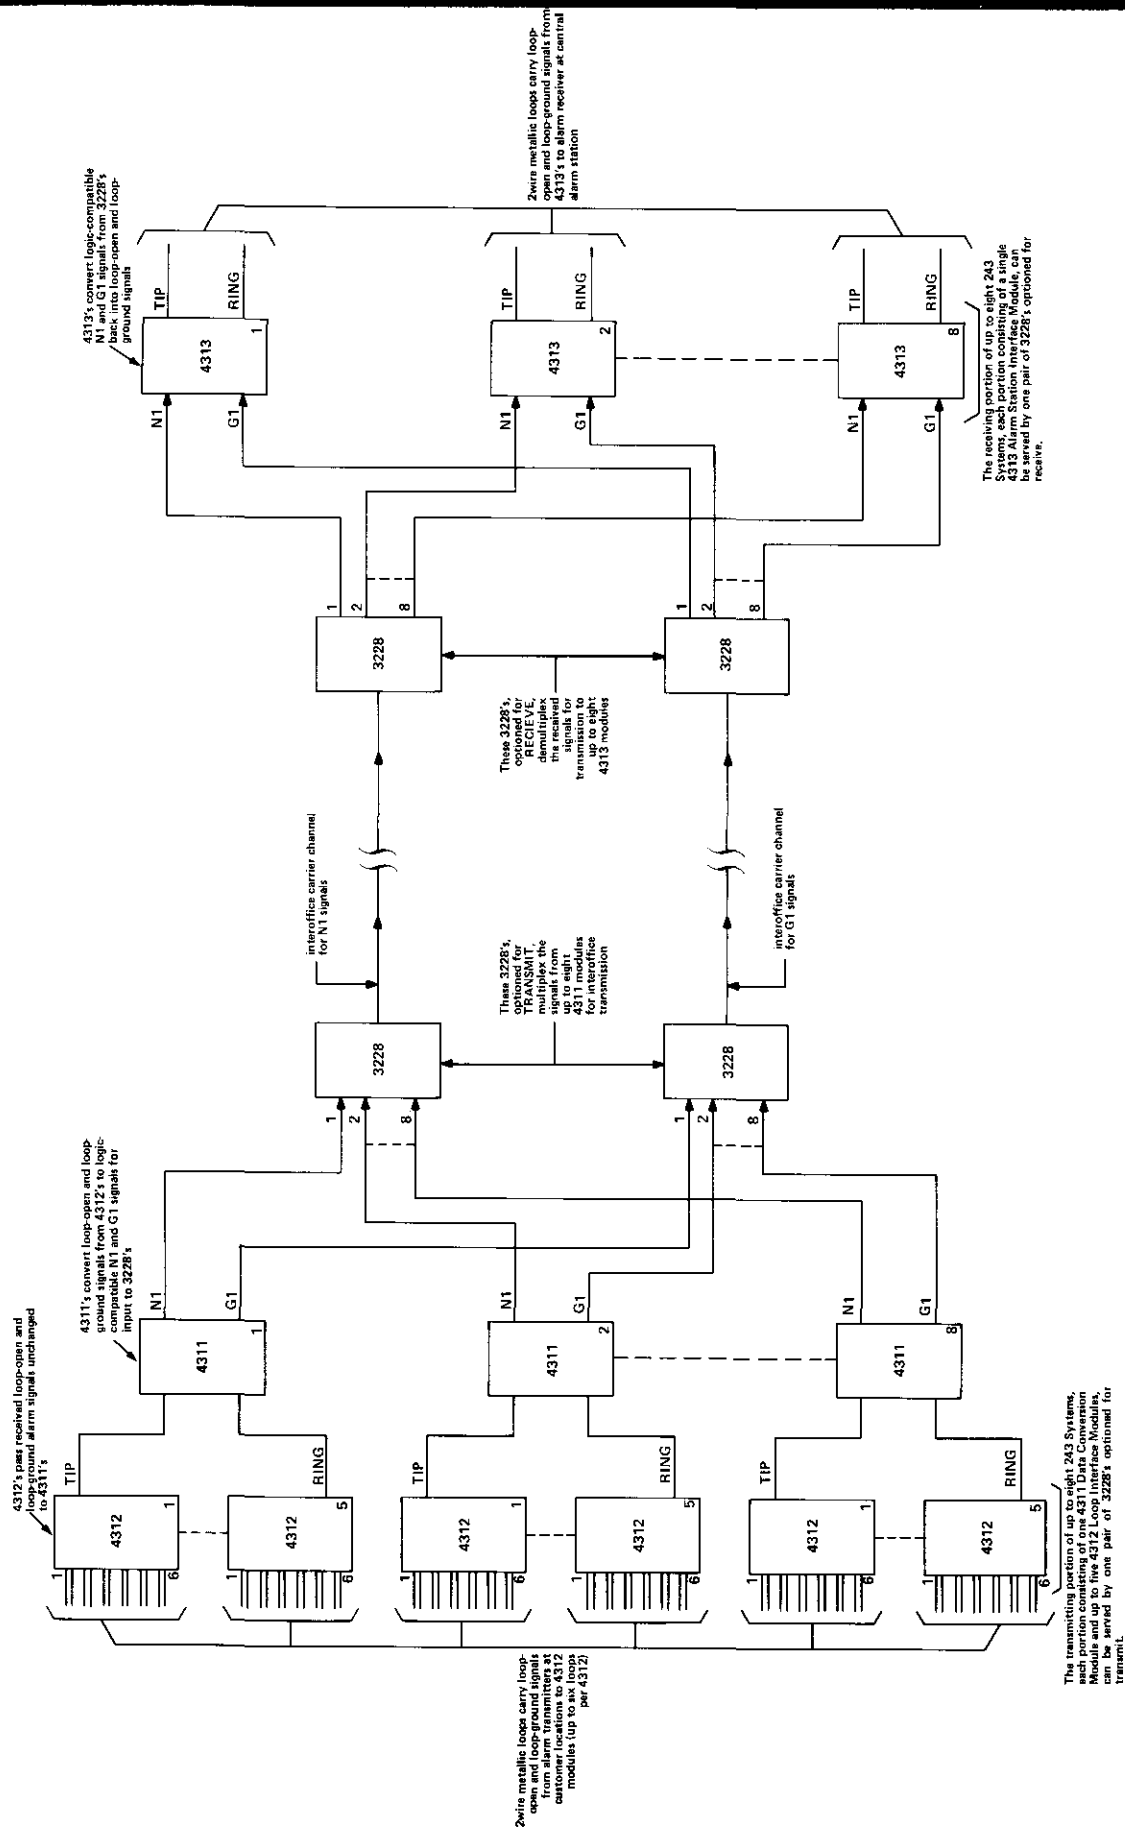

figure 3. Use of 3228 with 243 Low-Speed Data Signaling System
2.02 One major application of the 3228 module involves its use with the Tellabs 243 Low-Speed Data Signaling System. Designed for unidirectional transmission of low-speed (up to 15bps) loop-status signals of the type generated by McCulloh-formatted customer-premises alarm systems, the 243 System comprises a transmitting portion and a receiving portion that are physically located at opposite ends of a circuit, often in different CO's. The transmitting portion consists of one 4311 Data Conversion Module and one to five associated 4312 Loop Interface Modules. The receiving portion consists of a single 4313 Alarm Station Interface Module. Signal transmission between the two portions takes place over two separate, independent inter-office facilities, one for each of the two types of signals (designated *N1* and *G1*) generated by the 4311 module. When these facilities are carrier channels, a pair of 3228's (optioned for transmit operation) can serve as the required interfaces between the two transmitting-end outputs of the 243 System and the carrier channels; a second pair of 3228's (optioned for receive operation) can serve as the required interface between the carrier channels and the two receiving-end inputs of the 243 System. In such applications, the two pairs of 3228's can serve up to eight separate 243 Systems, as shown in figure 3.